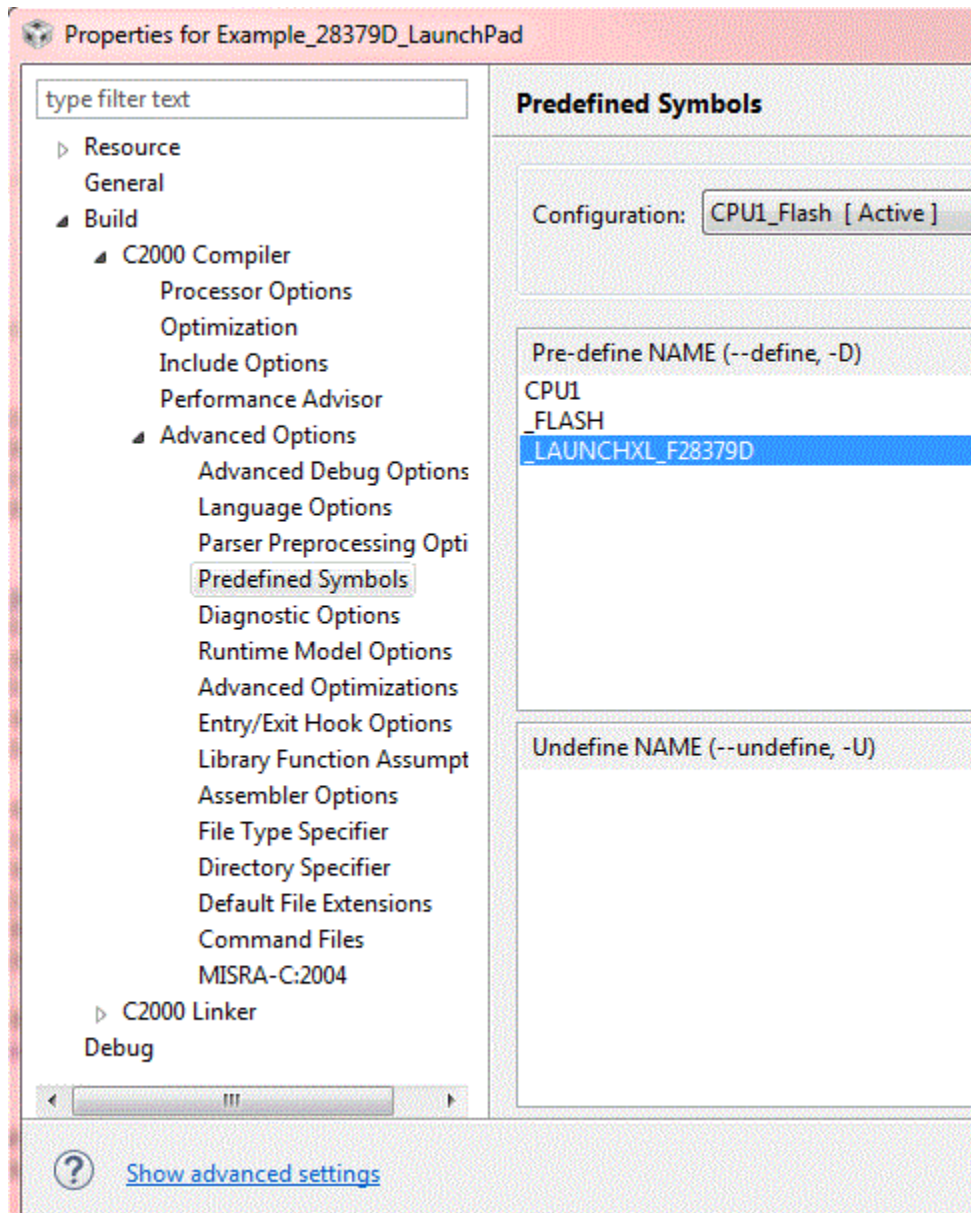

Figure 22.
- Access the Predefined symbols list by accessing the Project Properties, Navigating to Build » C2000 Compiler » Advanced Options » Predefined Symbols. Figure 22 shows the Project Properties selection tree and the symbol added to the pre-define list.